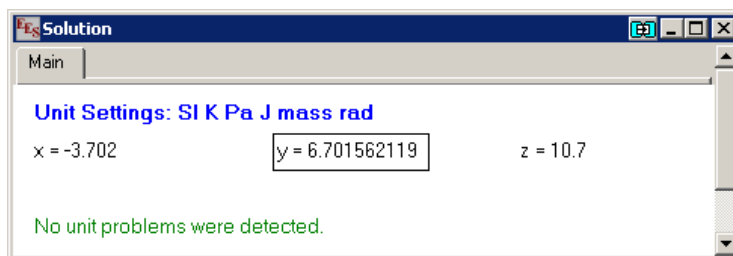

Figure 1-13: Solutions Window with an altered format for the variable  $y$ .
All EES numerical values use extended precision that internally provides 20 significant figures of precision. However, the display format can be separately specified for each variable in the Variable Information Window. The A in the first of the three columns under the word Display indicates Auto format. Several other display formats are possible. For example, click on the A under display for the variable  $y$  and select Fixed decimal (F) with 9 significant figures. Click on the N (normal) in the third display column on the same row and select boxed (X). Hit OK and then solve the equations to obtain the solutions window shown in Figure 1-13. Notice that the solution for  $y$  is shown in fixed decimal format to 9 significant figures and the result is boxed.